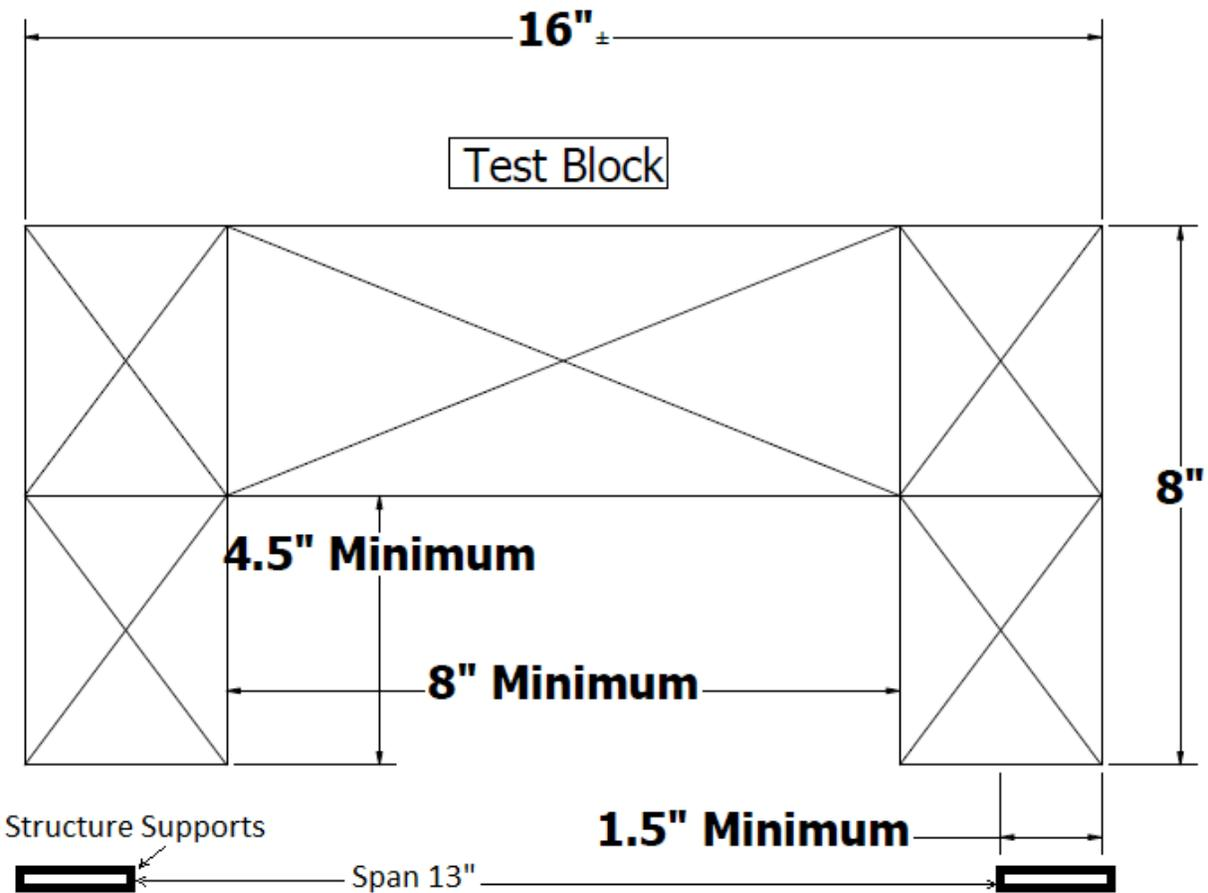

Figure 1
6. Each bottom end (foot) of the structure must be a maximum of 1 1/2" long (see **Figure 1**).